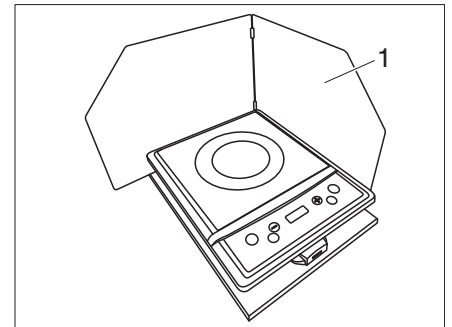

Fig. 31 Setting up the spray guard
- Remove and position the spray guard (Fig. 31,1).